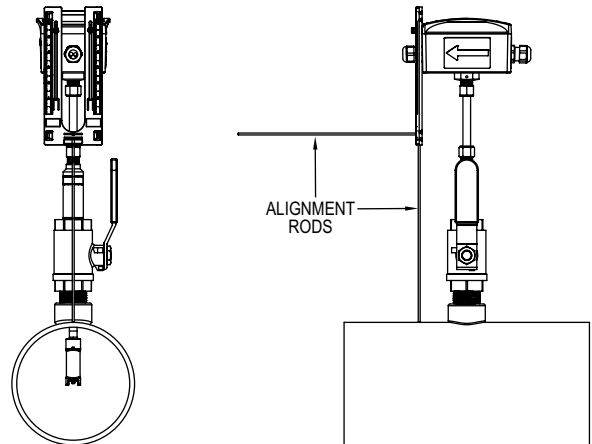

Figure 10: IEFB thermal energy meter alignment scale
2. Insert the two rods into the alignment scale as shown in Figure 10.